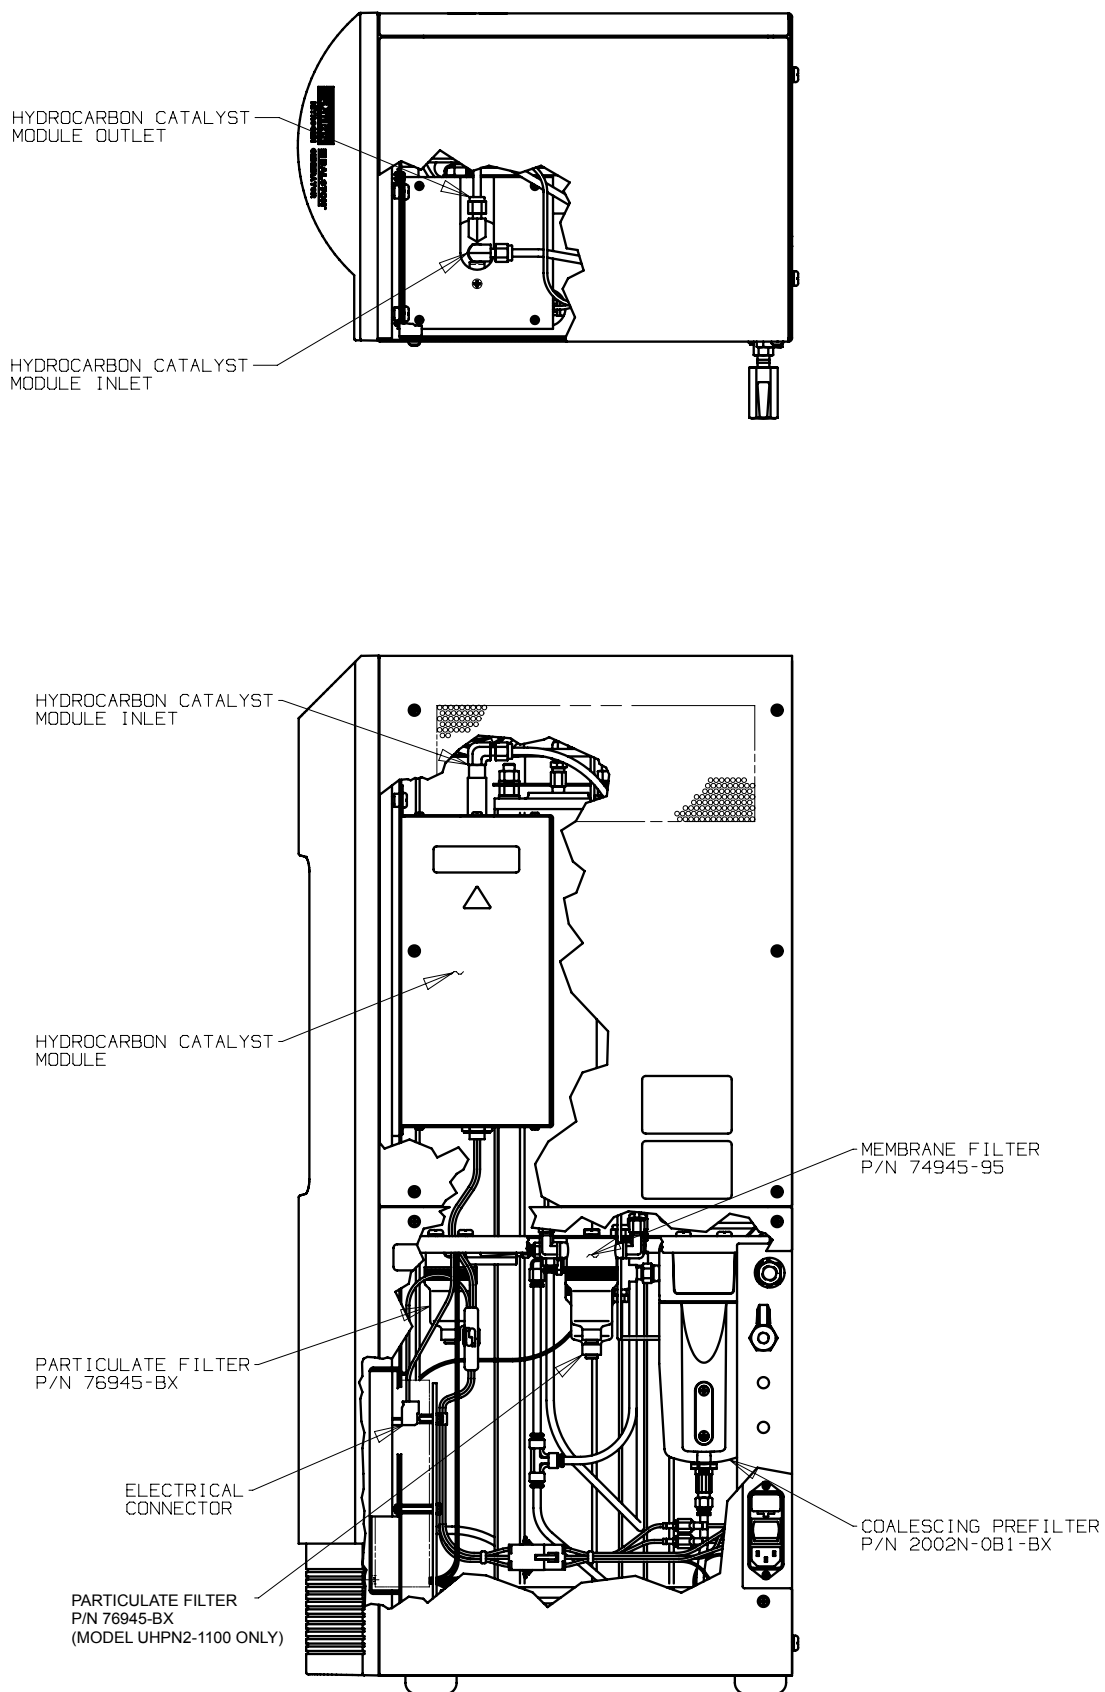

Figure 6 - Maintenance Items
The primary maintenance tasks required by the Parker Balston Nitrogen Generator are changing the filter cartridges in the coalescing prefilter and particulate filters (annually), replacing the final membrane filter cartridge (annually), and replacing the hydrocarbon catalyst module (Model UHPN2-1100 only, 3 years). A summary of the replacement part numbers and recommended service frequency is shown at the end of this Maintenance section. See Figure 6 for the locations of the various maintenance items.
The coalescing and particulate filters and the final membrane filter in the Nitrogen Generator are easily accessible when the lower service panel is removed (see Figure 6). These filters should be changed on an annual basis to maintain efficient operation of the system. The filter cartridge in the coalescing prefilter assembly is removed by loosening the bowl from the filter assembly, and unscrewing the element retainer from the base of the cartridge. Insert the new filter cartridge (P/N 100-12-BX) and reassemble the housing in the reverse order.
- 3 Remove the upper and lower service panels from the UHPN2-1100 (4 Phillips screws) and disconnect the electrical fittings to the hydrocarbon catalyst module at the connectors (see Figure 6).
- 4 Disconnect the two tubing connections to the hydrocarbon catalyst module (see Figure 6) using the wrenches (one as an anchor).